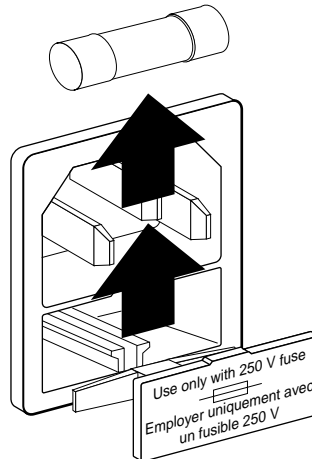

Figure 2. Removing the Fuse
4. **Remove the burned-out fuse by pulling it straight out of its socket, as shown in Figure 2.**